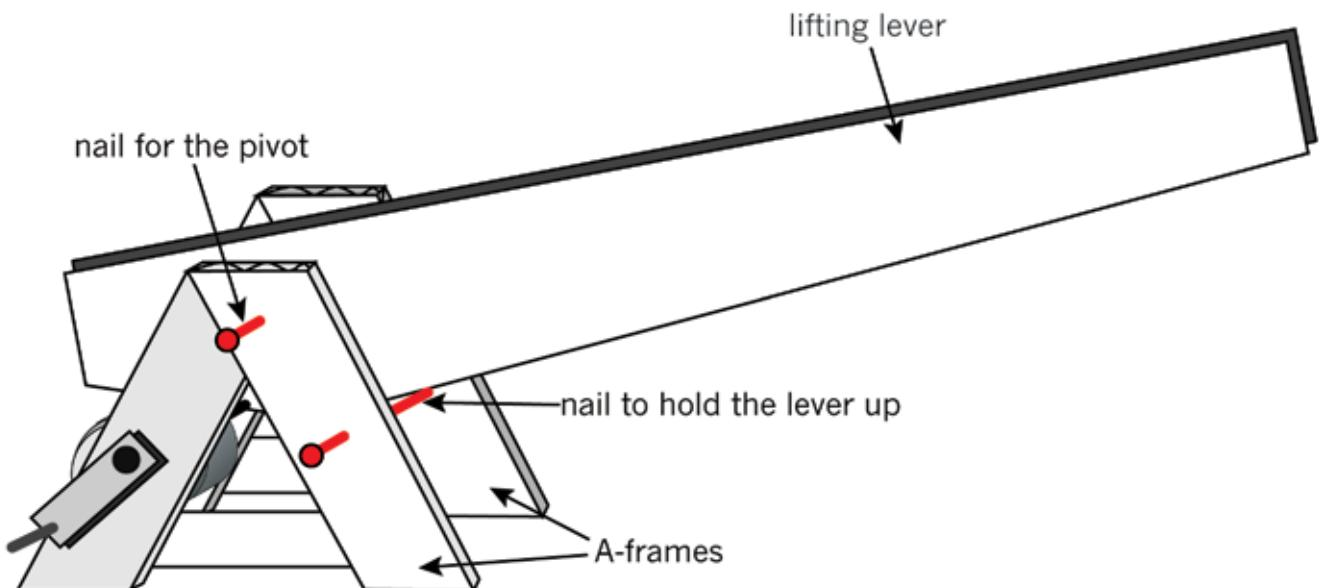

Figure 14: How to connect your lifting lever to your A frames
- Push another nail through the right legs of the A frames to hold the lever up. Look at Figure 14 to help you.